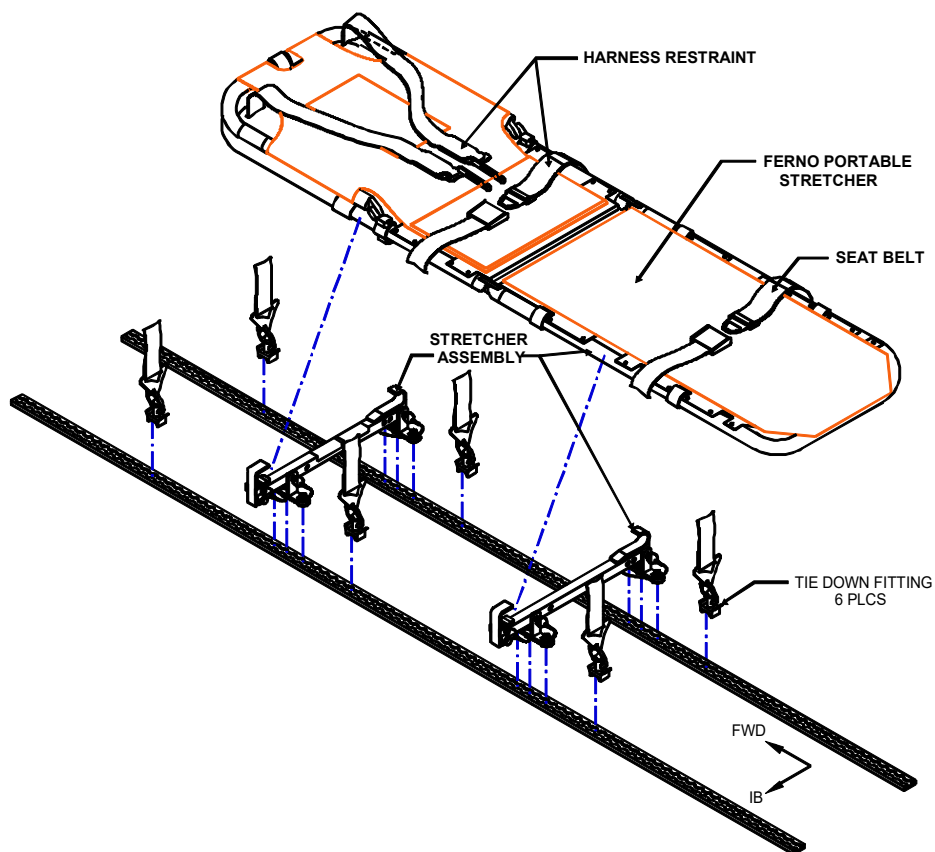

Figure 1.0A
- a. Locate and attached support assemblies on cabin seat track by lifting knurled nut for plunger and inserting foot studs into seat track. Move the support assembly forward or aft approximately .50" until plunger locks down into the cabin seat track. See Figures 1.0A & 1.0B
- b. Locate the tie down fittings in the cabin seat track and attach the restraints. See Figure 1.0A.
See Figure 1.0A.
- c. Remove the support assemblies from the cabin seat track by lifting knurled nut for plunger and moving the support assembly forward or aft approximately .50" until the foot bodies clear the cabin seat track. See Figures 1.0A & 1.0B